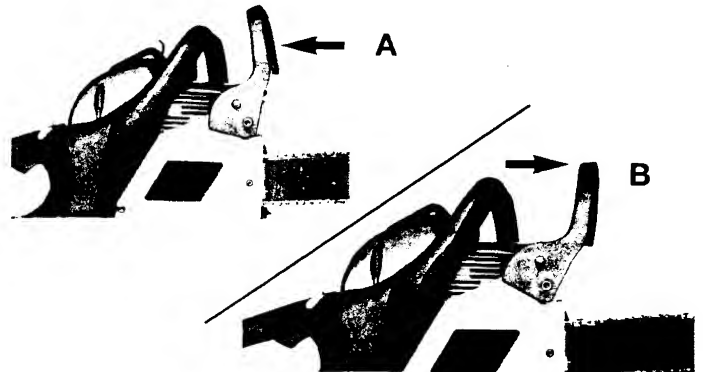

Fig. 24
1. The Chain Brake® is **DISENGAGED** (chain can move) when **BRAKE LEVER IS PULLED BACK AND LOCKED** (A, Fig. 24).
2. The Chain Brake® is **ENGAGED** (chain is stopped) when brake lever is in forward position. You should not be able to move chain (B, Fig. 24).